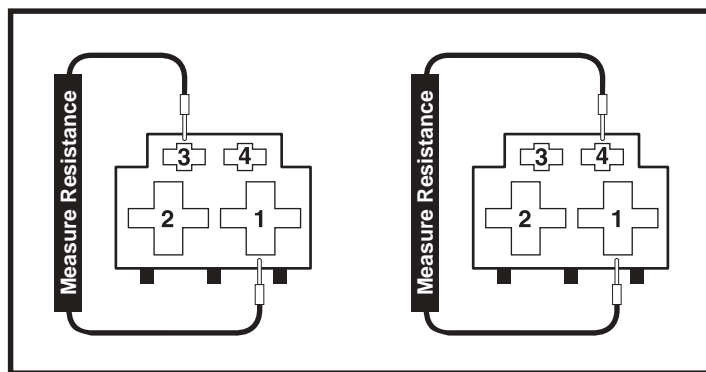

Figure 36. Connector 8a
2. Measure resistance from pin 1 to pin 3, then pin 1 to pin 4 on connector 8a. **See figure 36.**
- *If your multimeter indicates an open for both tests, then replace the power module (2) and retest the system.*
- *If your multimeter indicates less than 1 ohm for either test, then replace the right motor (8) and retest the system.*